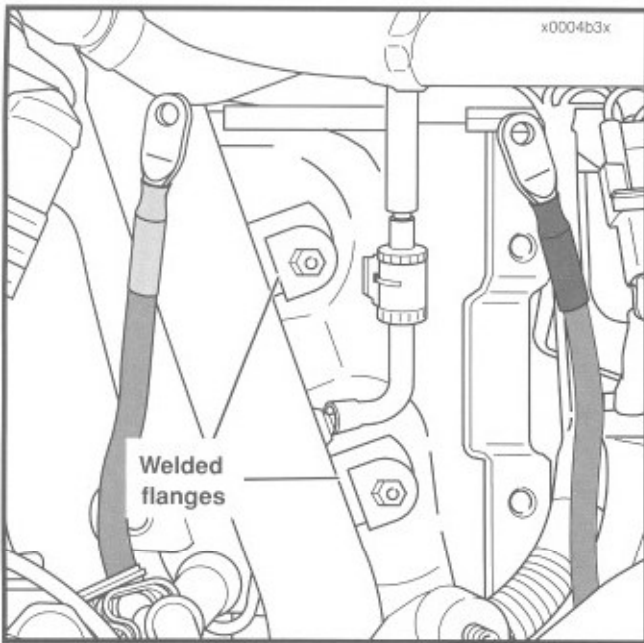

Figure 3-46. Install Oil Tank (Left Side View)
5. Position oil tank (9) in its installed location on motorcycle. Align studs on inboard side of rubber mounts with flanges welded to frame members. See Figure 3-46. Install locknuts to secure oil tank to frame. Tighten locknuts to 3-5 ft-lbs (4-7 Nm) torque.